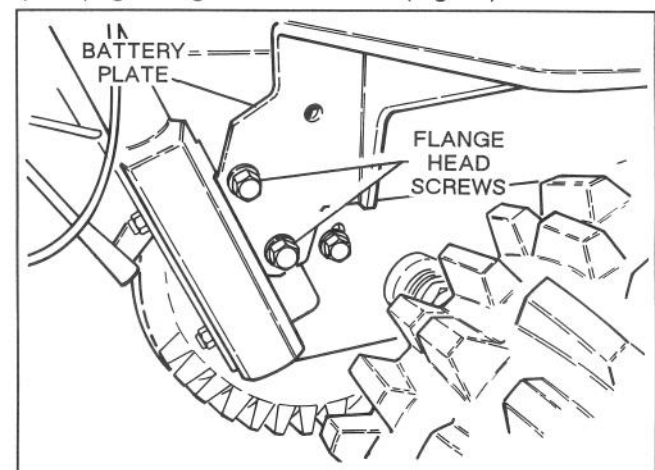

Figure 14
22. Tip unit on end and remove right wheel for easier access. Mount rear of battery mounting plate and handle bracket to engine frame with (2) 19mm (3/4") lg. flange head screws (Fig.14).